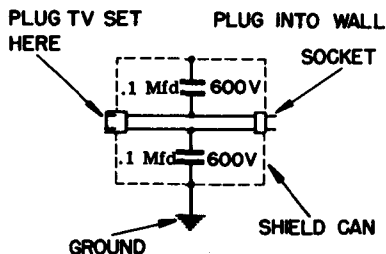

Fig. 47 — Zenith
**TV interference to radio reception (see Fig. 47).**